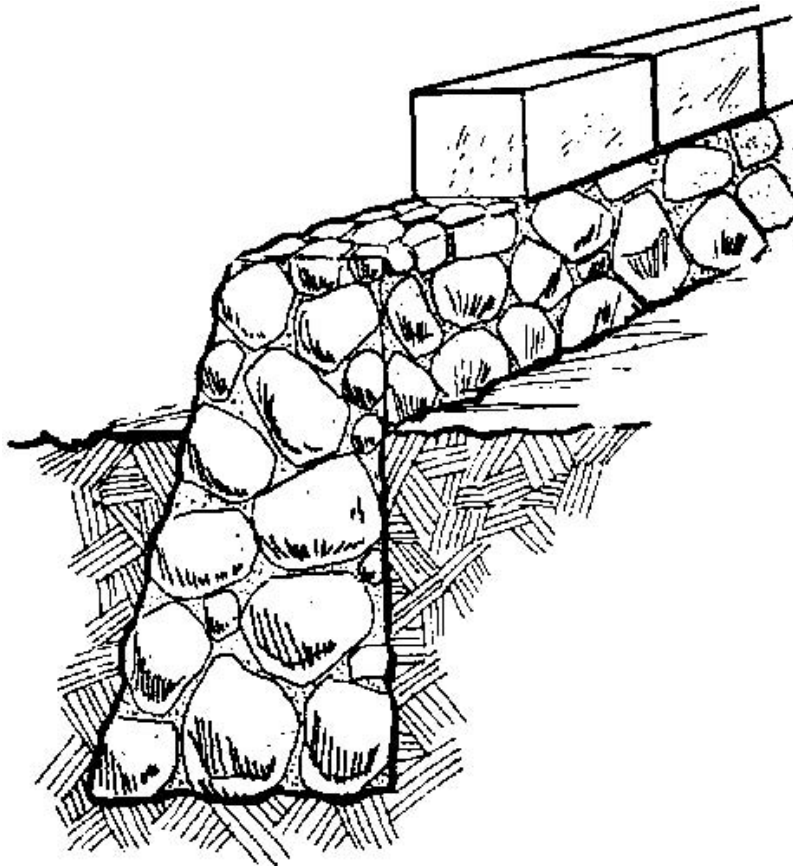

Figure 31.
*MASONRY FOOTINGS* - Bricks, concrete blocks, or rubble stone laid in mortar also make good footings. When using bricks, concrete blocks, or any *regularly* shaped materials, it is necessary that the bottom of the trench be leveled accurately; otherwise, the foundation wall may be unlevel. Either tamped sand can be used to level the bottom of the trench or a thin bed of concrete can be poured. For rubble stone footings, the trench does not have to be as level, but care must be taken to bring the height of the stones up so that the final surface - after being covered with a *thin* layer of mortar - will be level. Figure 31 shows a rubble stone footing.
*RUBBLE FOUNDATIONS* - Often, a large supply of stones, broken brick, or other suitable materials is available for building a rubble foundation. This type of foundation works well and is economical, although it is harder to reinforce. Instead of building a footing and foundation wall, the rubble foundation can be constructed as one solid piece which tapers up so that it is the width of the earth wall at the top. (See Figure 31.) The width at the bottom is determined in the same way as for footings using Table 4.